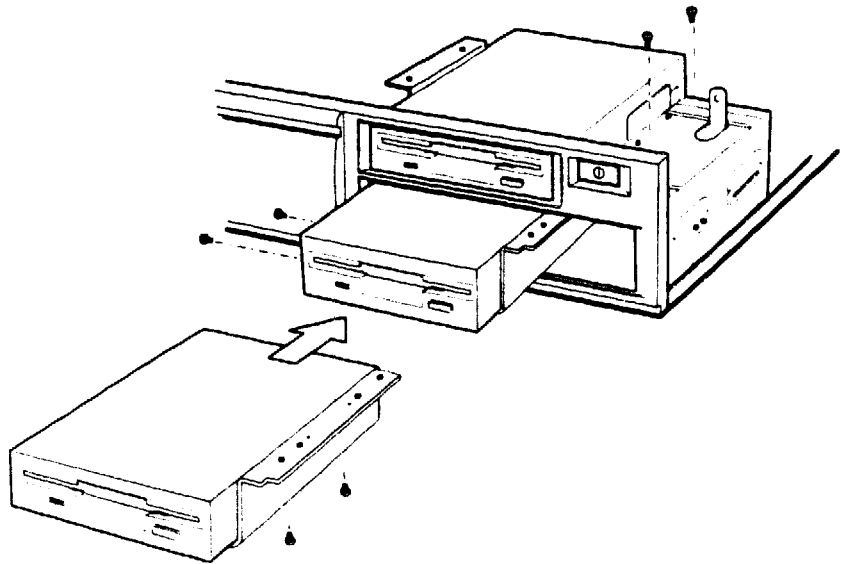

Figure 6.11: 3.5" Diskette Drive Installation
2. Remove the 3.5" mounting adapter from above the drive tower and using the two screws (screw no. M3X6L), mount it to the side of the drive (see Figure 6.11). Secure the adapter by screwing it to the underside of the diskette drive.